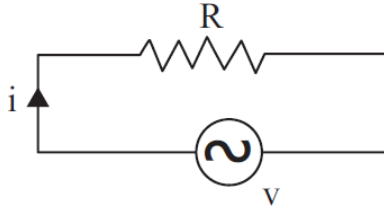

Figure 2.10
In the purely resistive circuit, a resistor (R) is connected across an alternating voltage source as shown in Fig.2.10